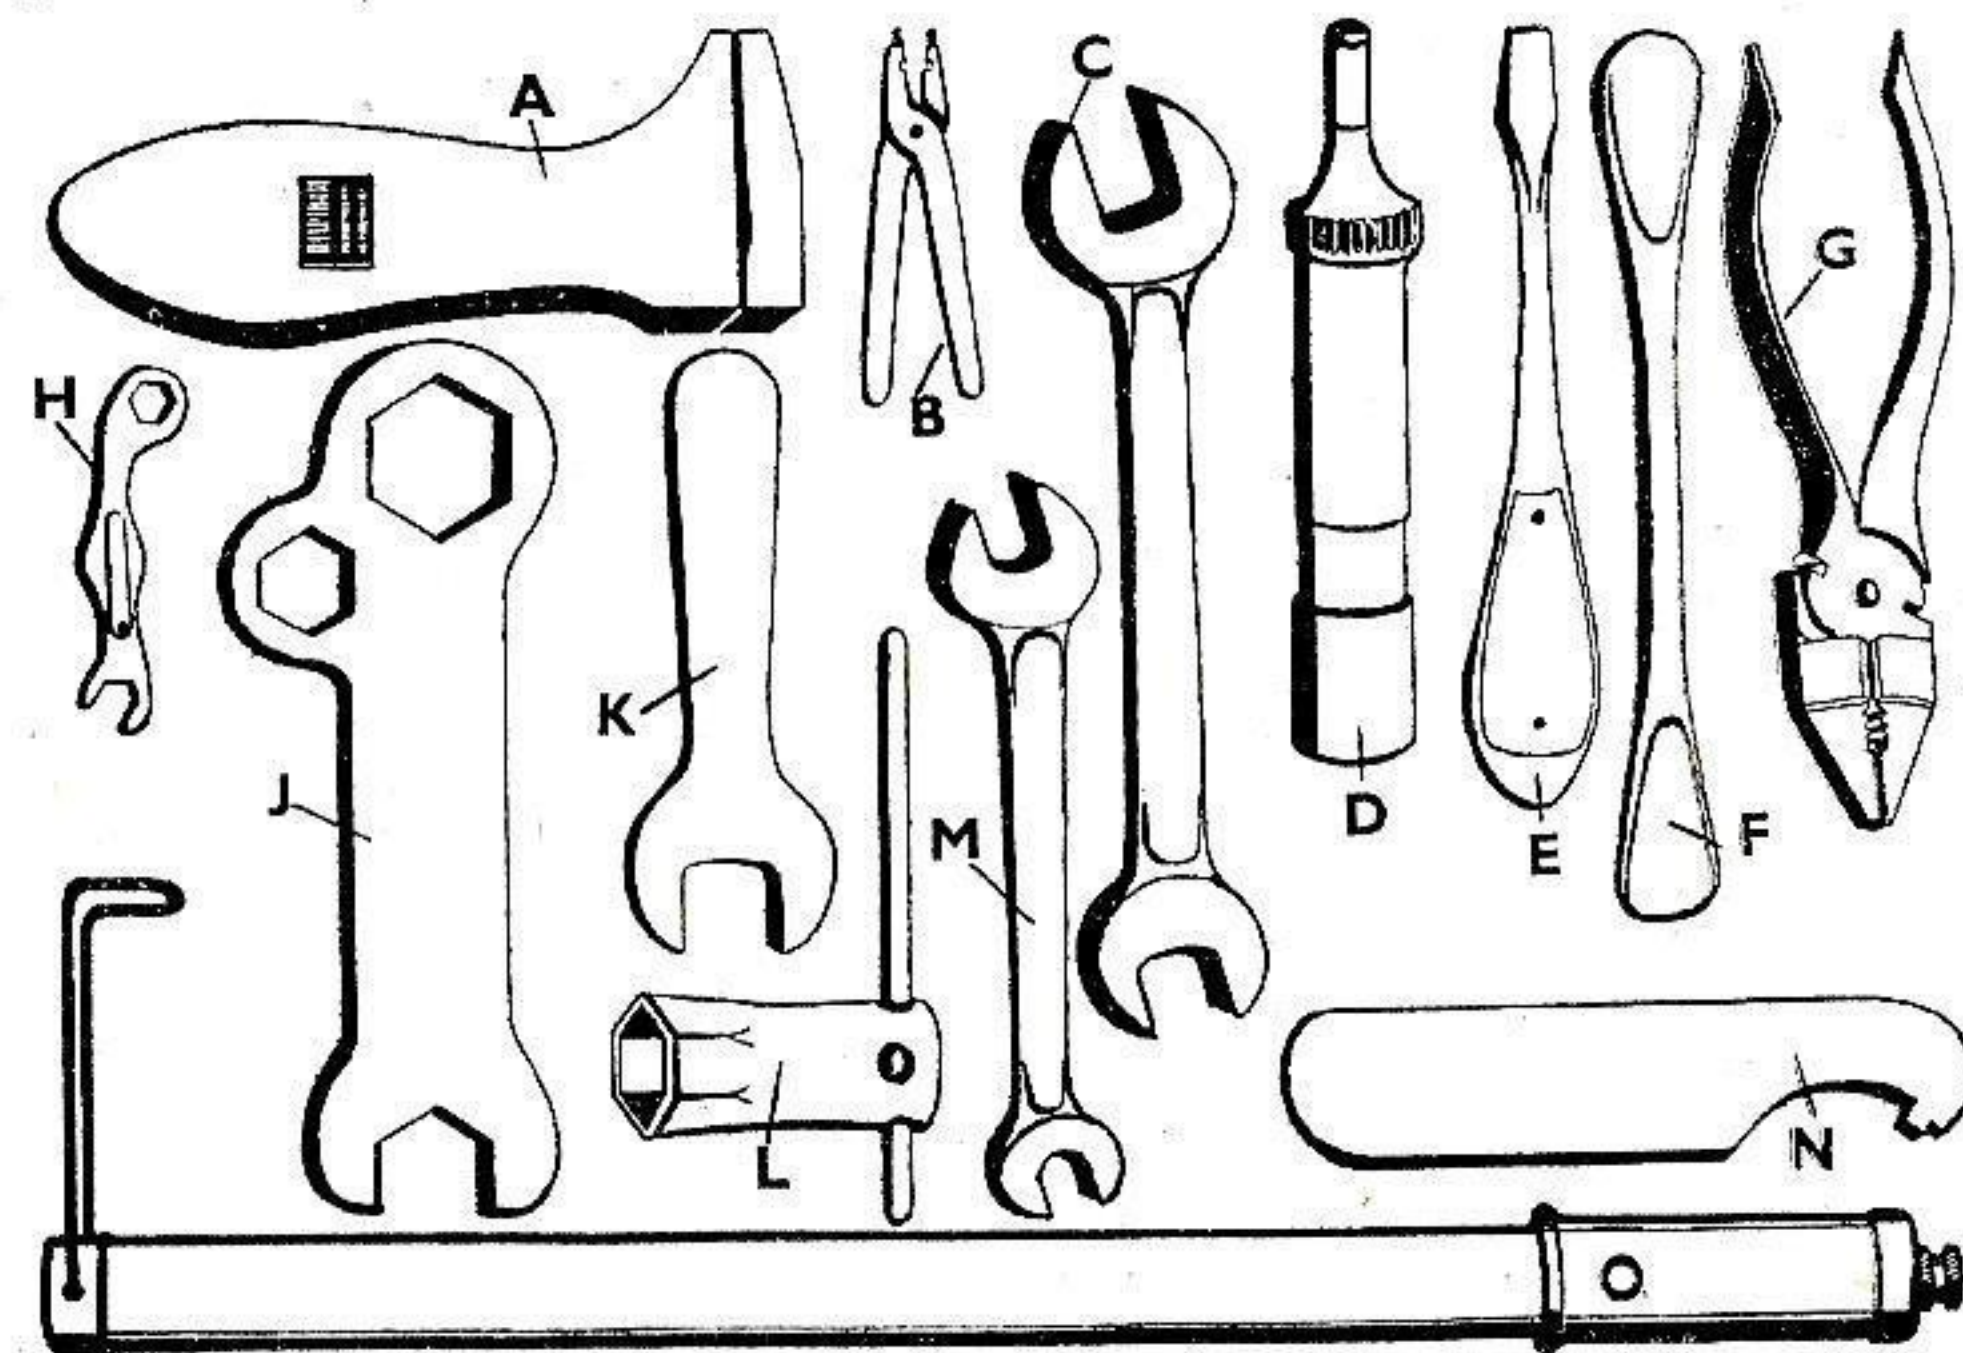

FIG. 63. THE A.J.S. TOOL KIT
The A.J.S. Tool Kit. As may be seen in Fig. 63, twelve tools are provided in addition to the grease gun and tyre inflator. These should be sufficient for all normal stripping down and assembly. In connection with maintenance, the author would suggest the purchase of the following useful, if not indispensable, items: a
6. Piston Removal. To remove the fully-floating gudgeon-pin, it is only necessary to extract *one* circlip with the special pliers shown at *B* in Fig. 63. Push the gudgeon-pin out from the opposite side and remove the piston. The gudgeon-pin is an easy sliding fit in the piston bosses and the small-end bush. If the piston is not of the split-skirt type, scratch an "F" on the inside to indicate which is the front.
Next insert the gudgeon-pin from the side from which the circlip has been removed. Centralize the gudgeon-pin, and with the small pliers, shown at *B* in Fig. 63, replace the circlip, using a rotary movement to ensure that it beds snugly into its groove. Perfect fitting of the circlip is essential to prevent damage. If the condition of the old circlip is suspect, fit a new circlip immediately.
Care of Lucas Magneto. Lubrication of the magneto is dealt with on page 110. Keep the contacts of the face cam type contact-breaker clean and adjusted to give a "break" of .010 in. to .012 in. as described on page 51. Use the feeler gauge attached to the magneto spanner (shown at H in Fig. 63) to check the gap. Complete removal of the contact-breaker is unnecessary except for lubrication. Occasionally inspect and clean the H.T. pick-up and brush. About every 10,000 miles the instrument should be returned to a Lucas Service Station for dismantling, cleaning, and greasing of the armature bearings.